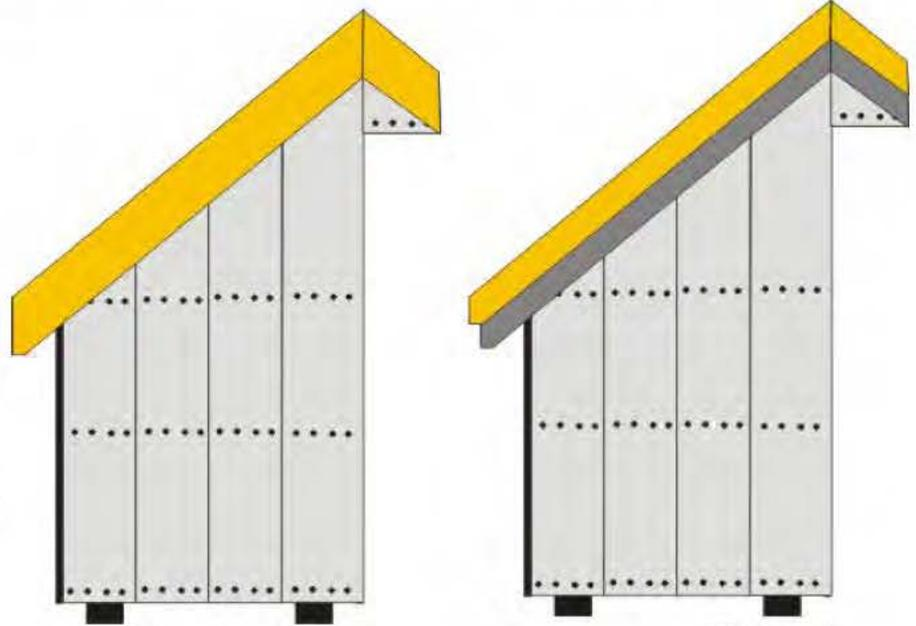
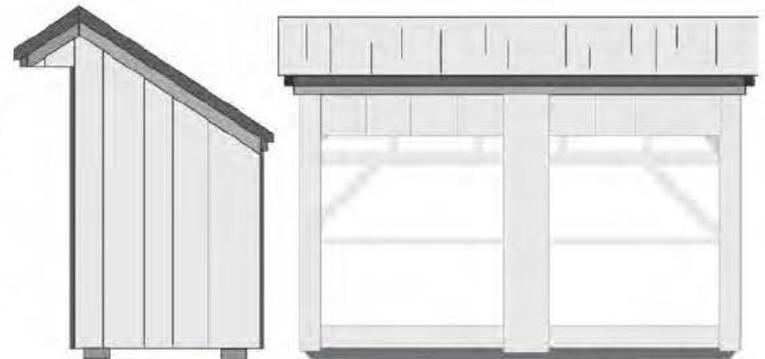

Figure 1
Figure 2
**Step 1.** Apply the 1x8 fascia to the two gable walls cutting them flush to the rafter ends. The rafter patterns that were made for the roof framing contain the same angles that you will use for cutting the fascia to match the rafter tails on the gable ends. The fascia is intentionally run long in the PCK's in order for a tight fit. Use a hand saw to cut off any excess. Figure 1. Fascia should be attached using three 6d galvanized nails 24" on center. Finish the fascia completely before beginning the shadow trim.
**Step 3.** Install the 1x4 shadow board using the same technique as the fascia. Figures 1 and 3. Nail in place using two 6d galvanized nails at each rafter or 24" on center on the gable ends. Once the fascia is complete, begin the shadow trim. Figure 2 shows both and fascia and shadow trim finished.